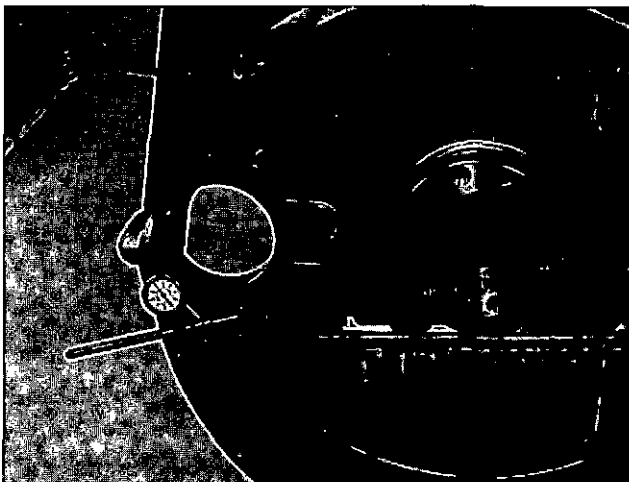

Fig. 14-58 (N114276). Check The Alignment Of The Housing Face.
1. Install the dial gauge attachment and dial gauge as shown in Fig. 14-58.